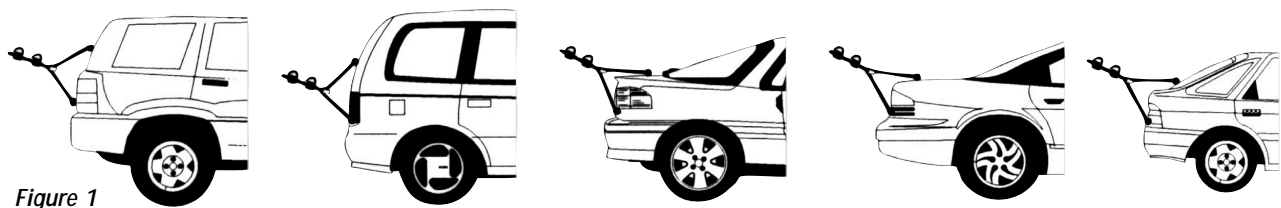

Figure 1
3. Move the upper support leg to the appropriate angle that corresponds to your vehicle as shown in figure 1.